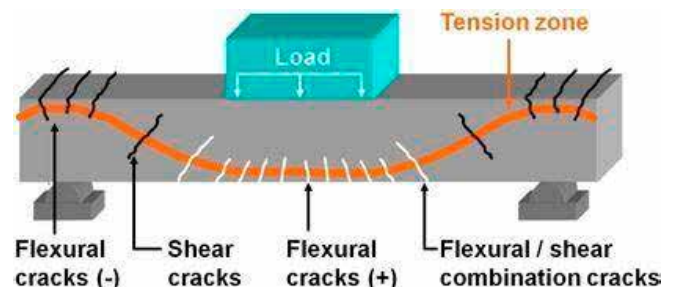

Fig. 2: Visual depiction of how structural hardened cracks can form
- **Hardened concrete cracking** occurs after the concrete has cured and can result from a number of factors, including thermal movement, drying shrinkage, structural loading, and other external forces the concrete is exposed to throughout its service life (Fig. 2).